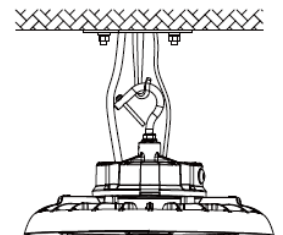

Fig. 2
- Hang the fixture on the ceiling hook or chain. (Fig. 2)